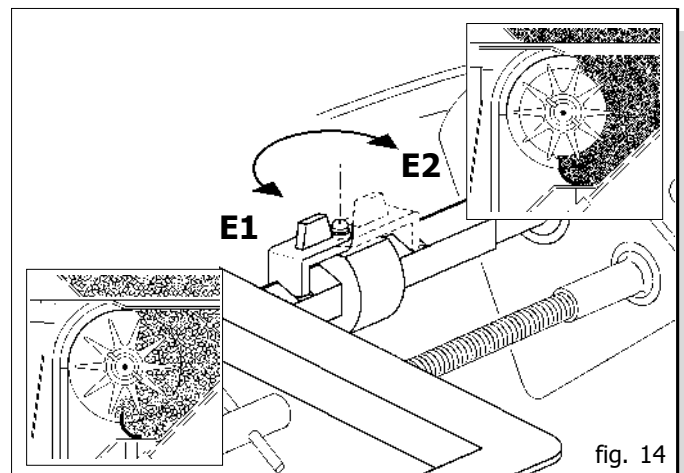

fig. 14
The position "E1" (Fig. 14) enables the gate to be opened on a graduated scale, ranging from 0 to 110, with maximum capacity of the dosing roller; in the "E2" position, on the other hand, there is a gate opening range of 0 to 25 and the capacity of the roller is reduced. It is important always to remember to close the gate completely (0 on the graduated scale) in order to invert the position of the locking spring (E).